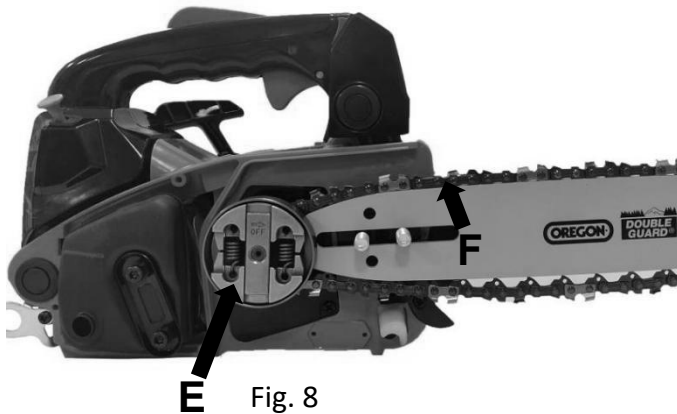

Fig. 8
6. Run the chain behind the drive chain wheel (E). Check if the chain links are well positioned between the teeth of the chain wheel (Fig. 8).
7. Insert the links into the bar groove (F) (Fig. 8).